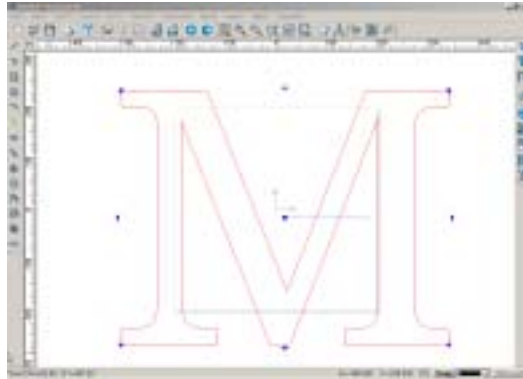

Fig. 12-22
2. Type the letter "M". (Fig. 12-22)